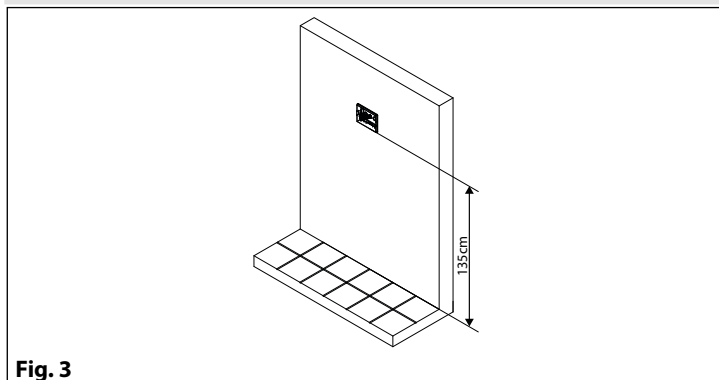

Fig. 3
2. Protect the holes to fix the videophone to the flush mounting box then embed the flush mounting box in line with the wall **in a horizontal position** at 135cm height from the floor as shown in **Fig. 3**;
3. As shown in **Fig. 3**, fix the back cover of the videophone to the flush mounting box keeping the same orientation shown in the figure and taking care to feed the connection cables through the specific circular opening;